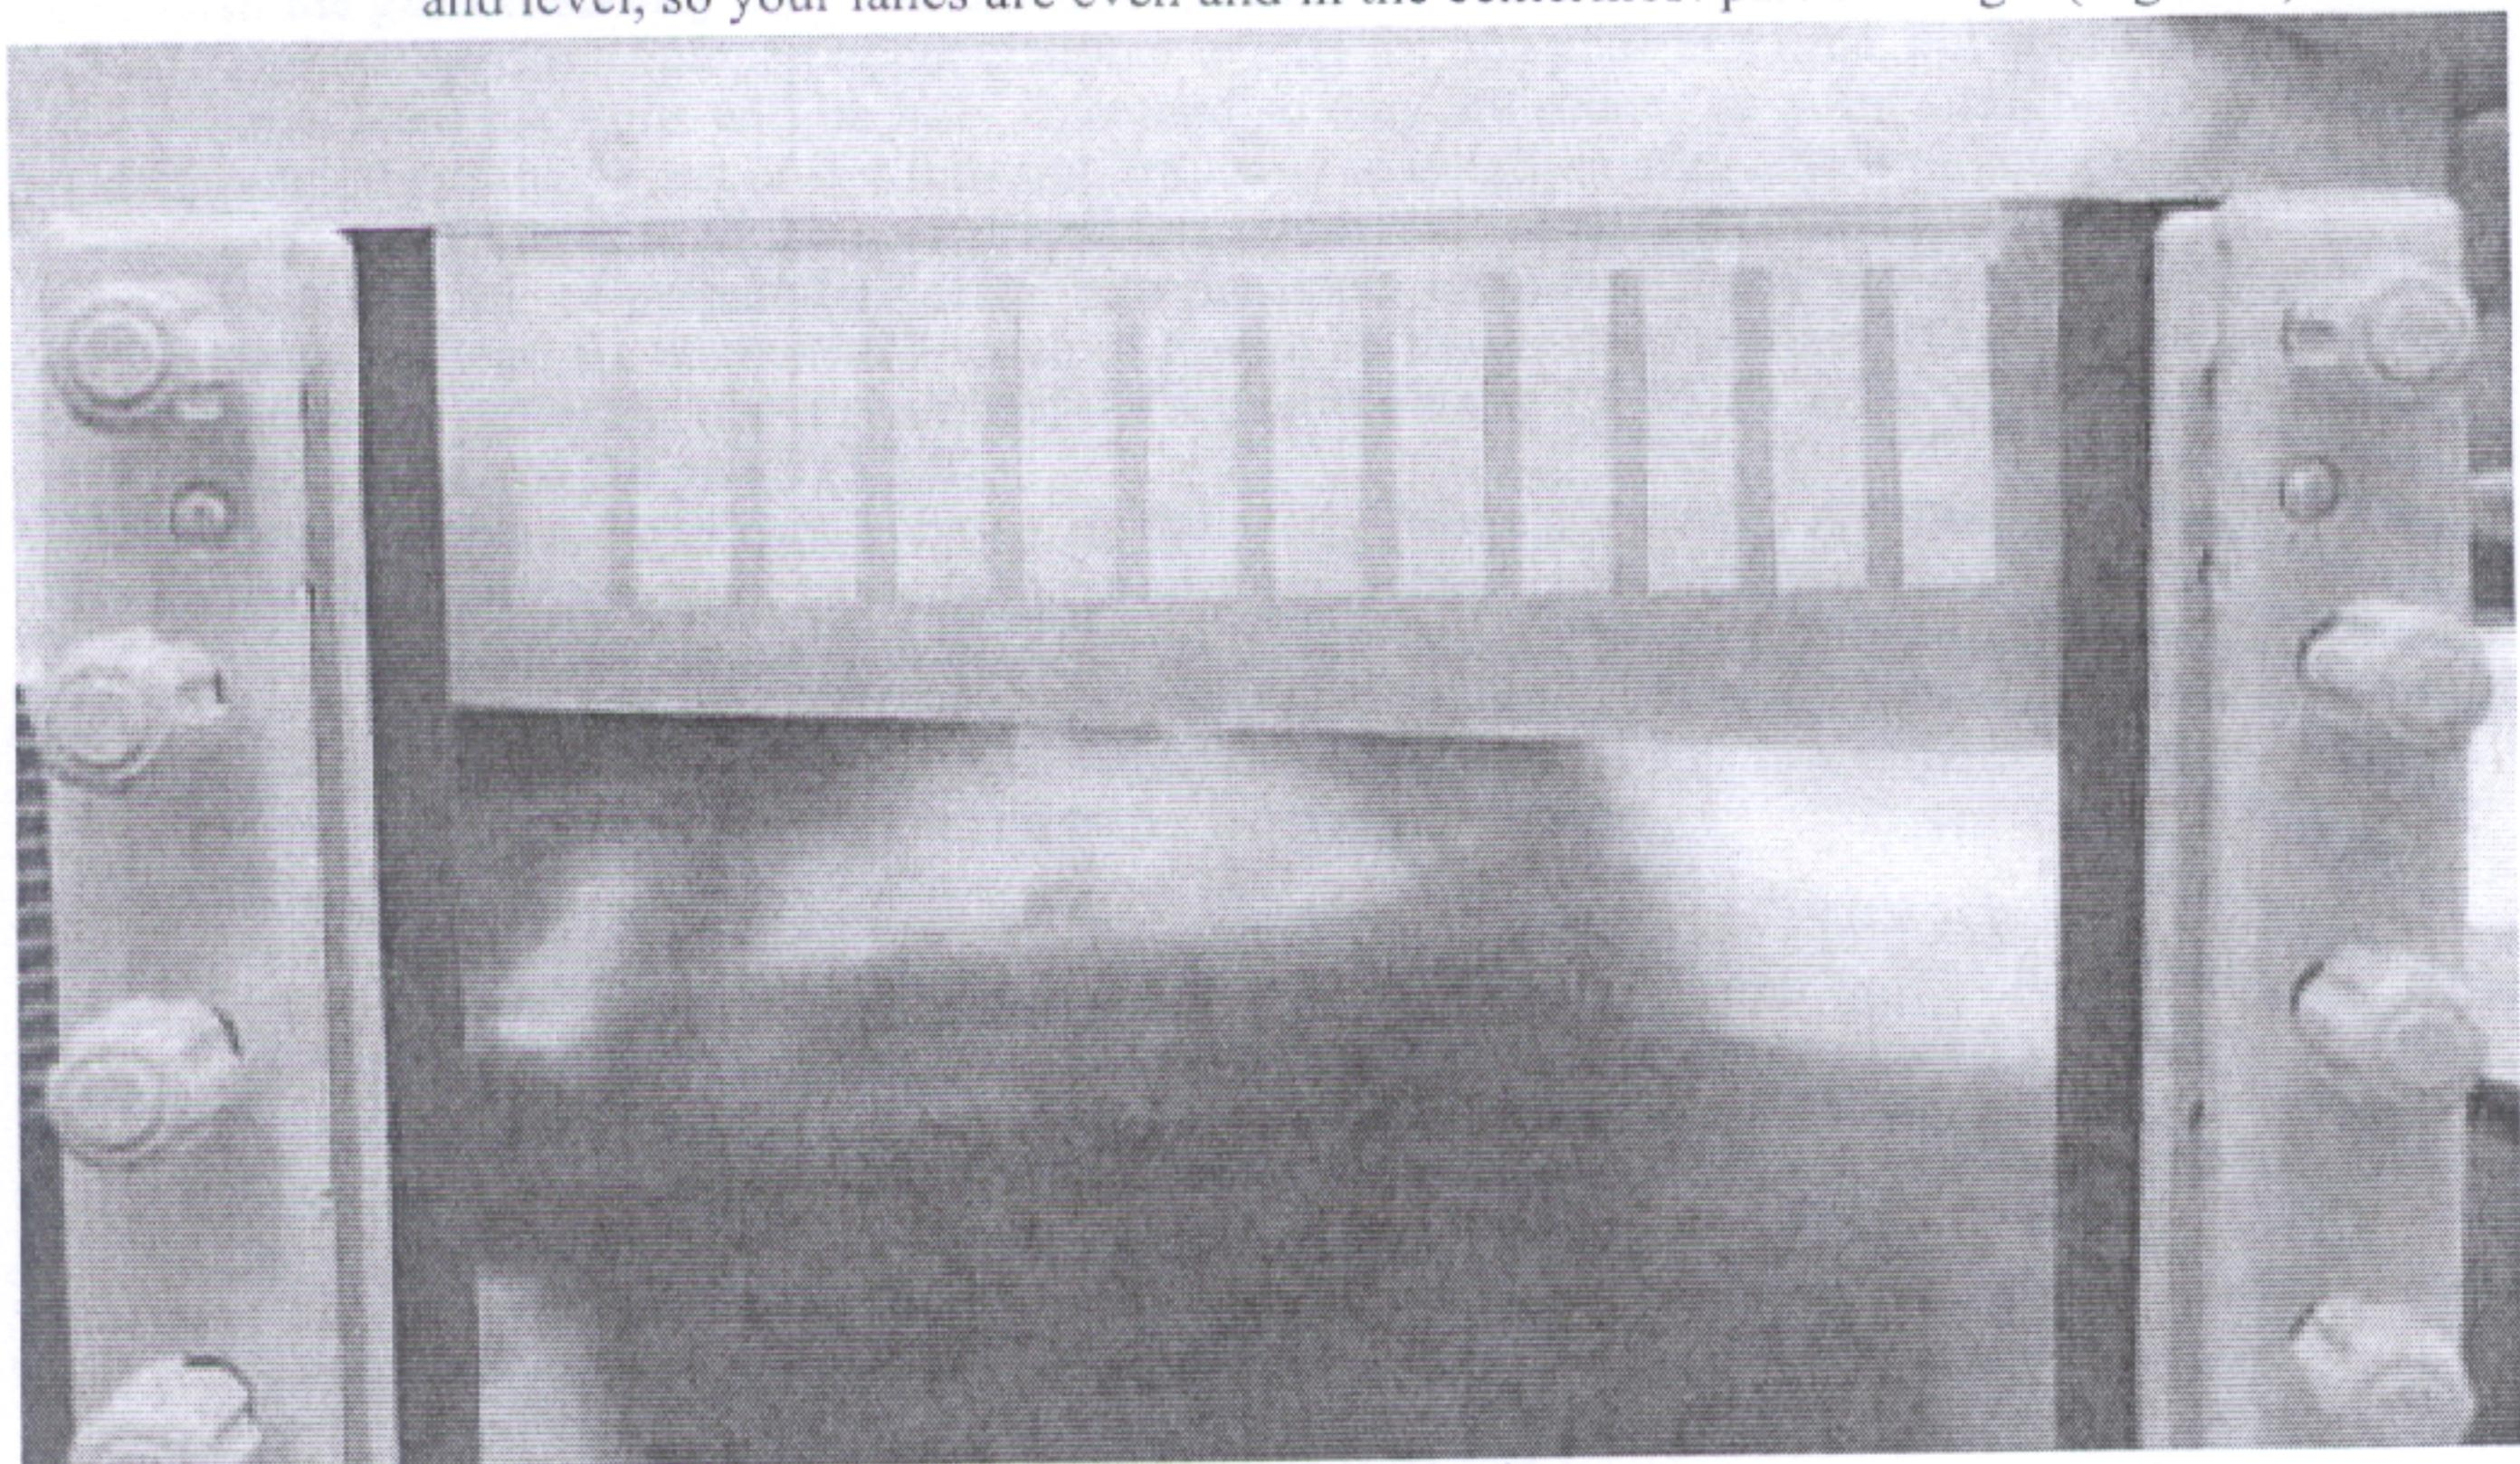

Figure 6. Example of comb placement.
- 3.7.5. Insert the comb in the solution to form the wells. The recommended depth is 1.5 cm lower once the comb teeth are completely entered into the gel. Make sure the comb is centered and level, so your lanes are even and in the centermost part of the gel (Figure 6).